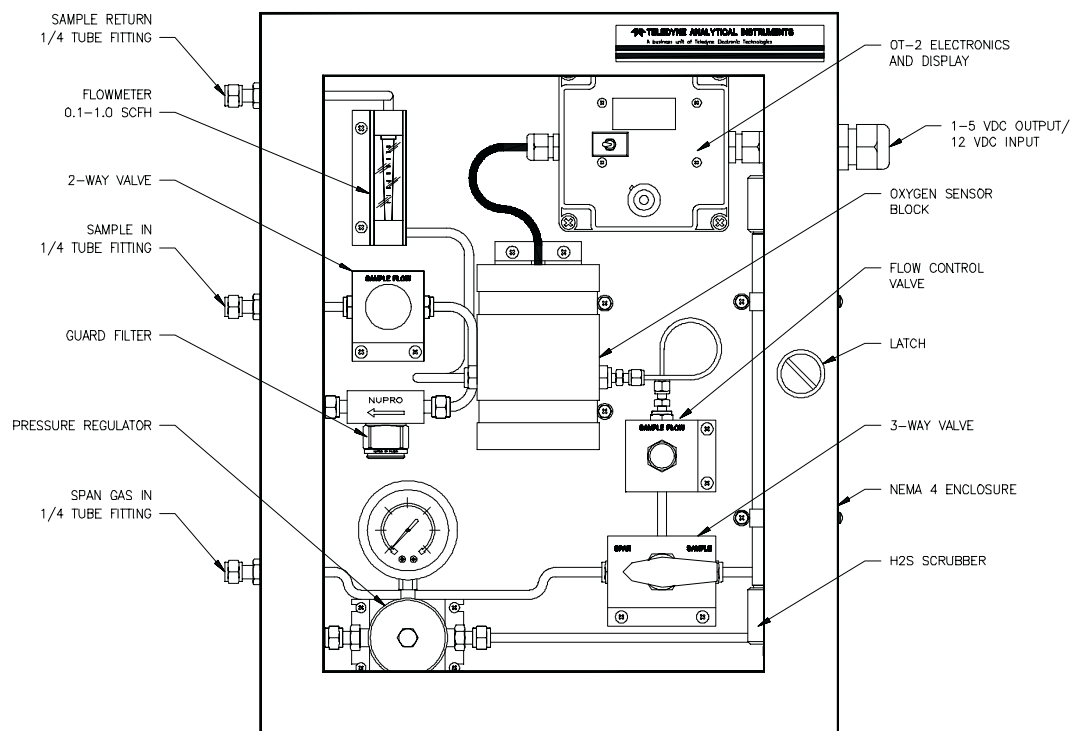

Figure 3-2 Front View of OT-2 System
Figure 3-2 shows the Model OT-2 System. There are ports for gas inlet and outlet, power and analog concentration output.
***All gas connections, Sample In, Sample Return and Span Gas In are made at the connectors located on the left side of the system enclosure as shown in Figure 3-2.***